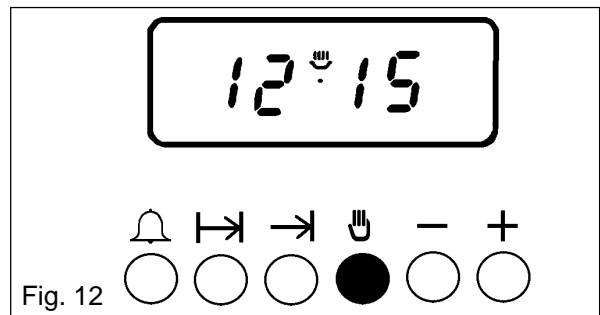

Fig. 12
- i) To cancel an automatic programme, press (⏏) button. The AUTO display will go out and the cookpot symbol will light, as Fig.12.